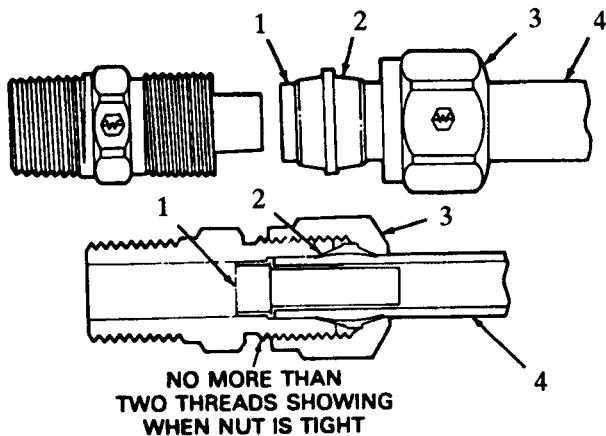

Figure 100 Tightening Tube Nut
9. Install and tighten tube nut to secure sleeve on tubing. Tighten tube nut so that no more than two threads are showing between the nut and fitting (Figure 100). Do not overtighten nut.